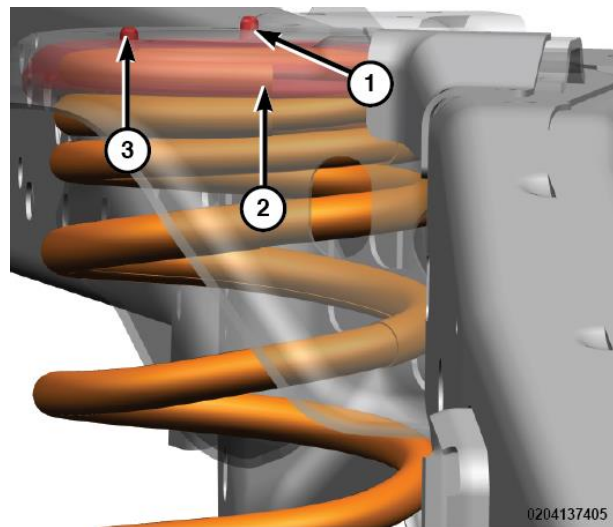

Figure 14 – Spring Positioned On Perch
2. The new coil spring must be installed so that the isolator locating tabs (1), (3) are positioned through the corresponding holes in the spring pocket and the coil spring end (2) must be positioned as shown (Figure 14).